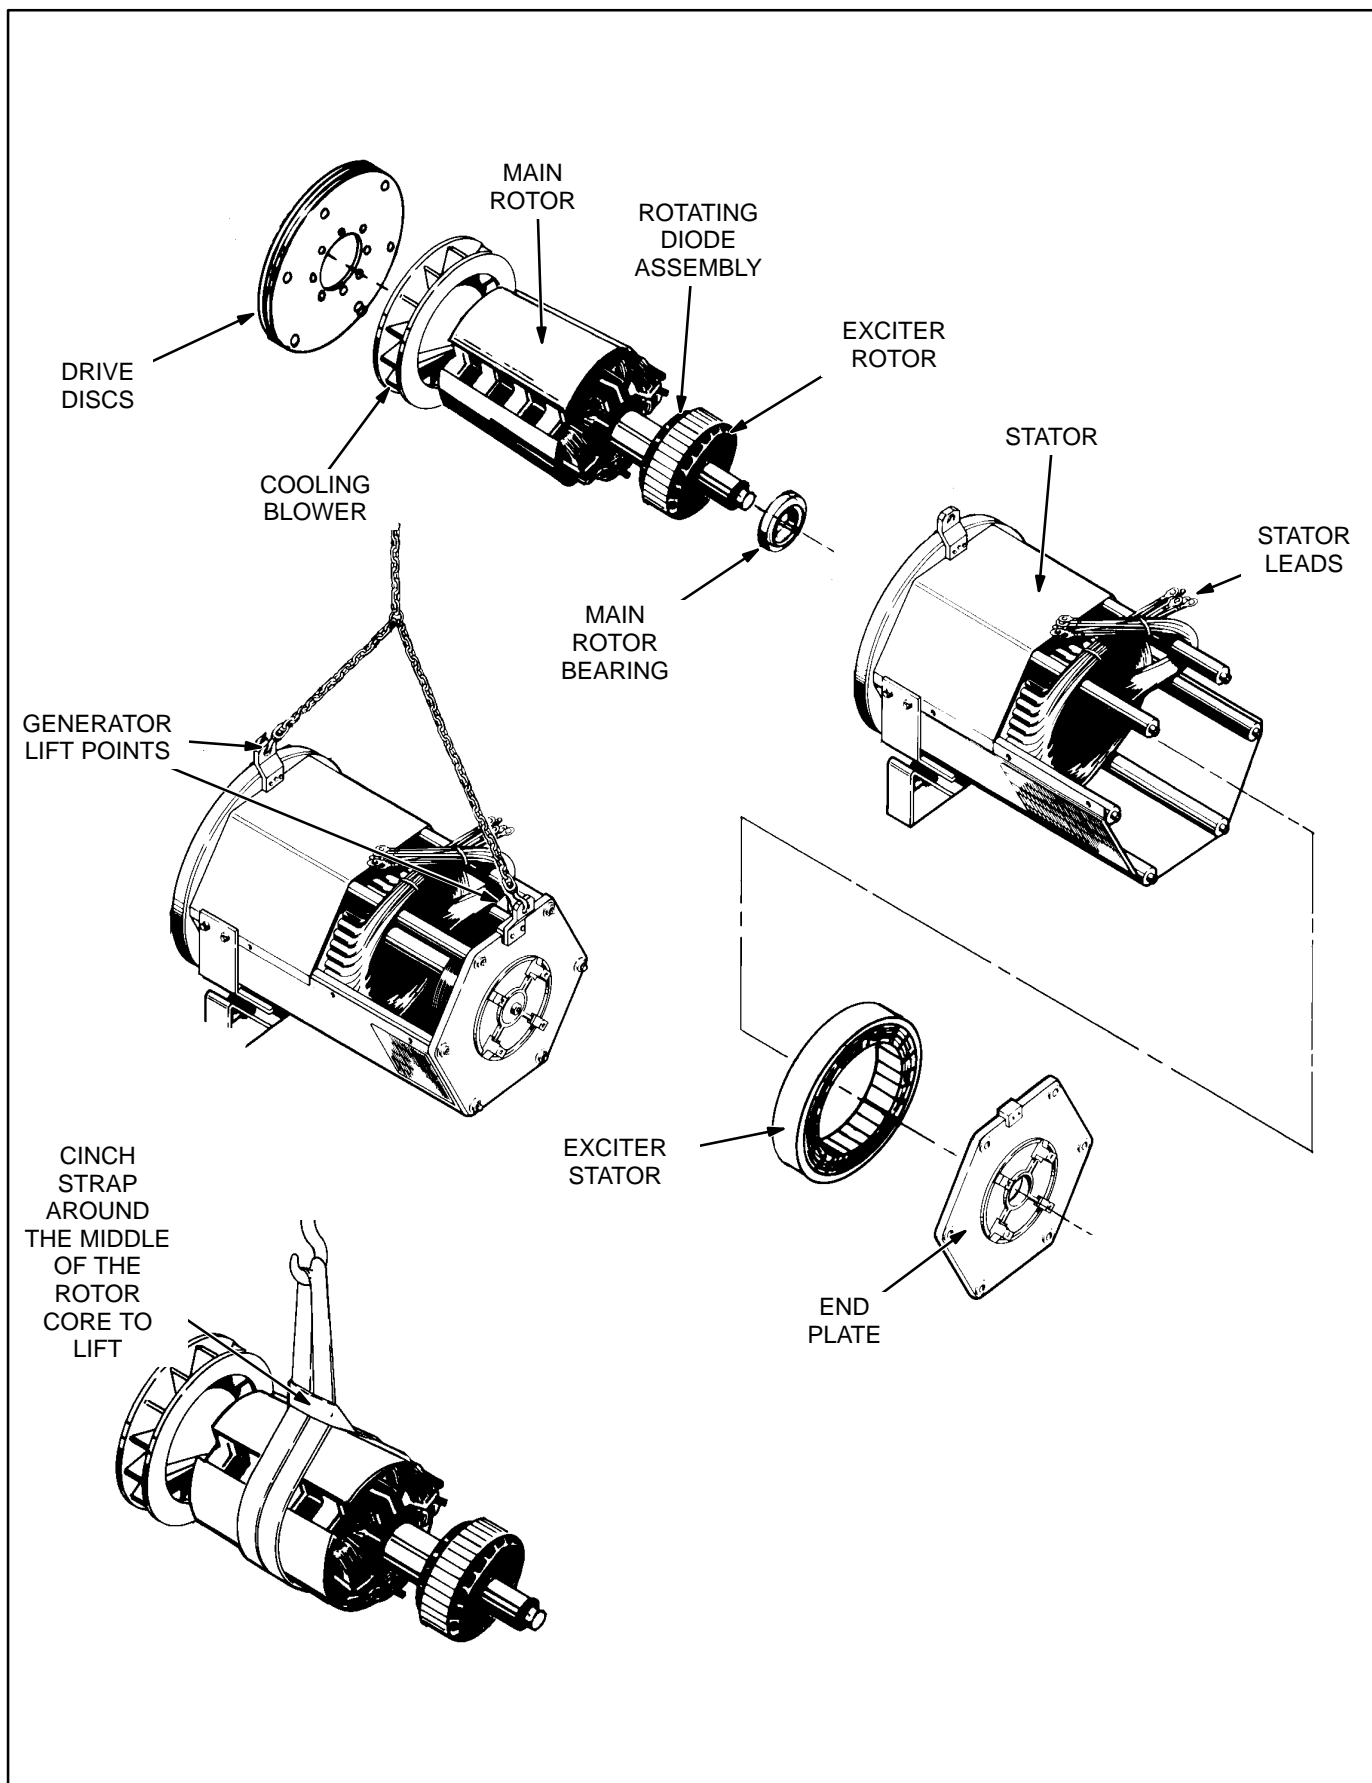

FIGURE 7-7. GENERATOR ASSEMBLY
2. Attach lifting eyes and a hoist of sufficient capacity (Figure 7-7).